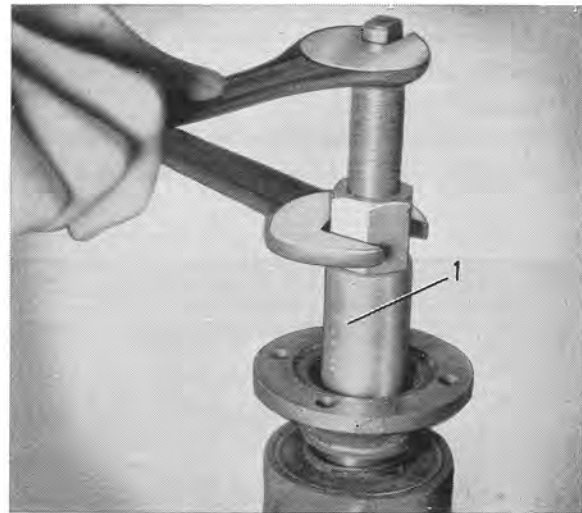

Fig. 4-144. Fitting flange
4. Press on the flange with the help of press tool 1845, see Fig. 4-144. Fit the washer and nut. Tighten the nut to a torque of 280—300 Nm (200—220 lbft).